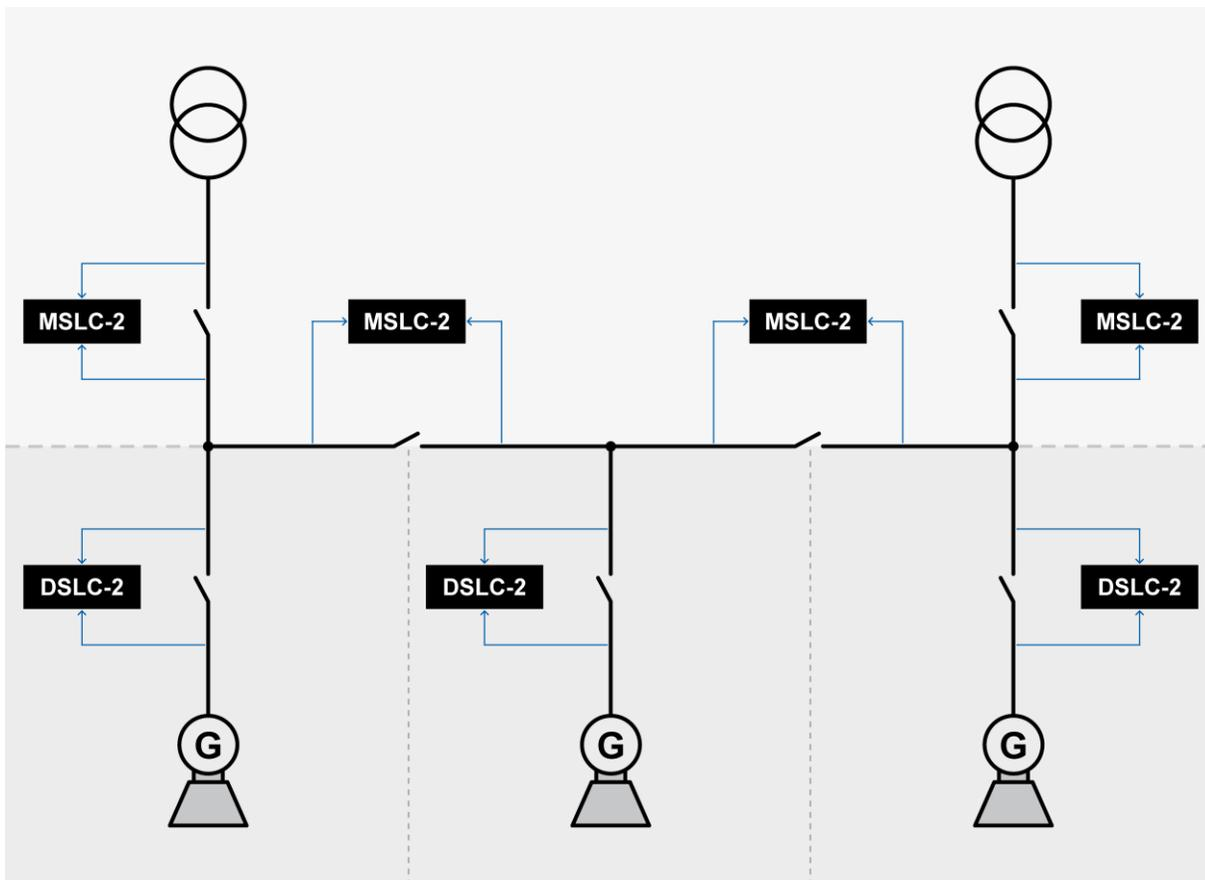

Figure 3-116: Example of an online diagram – step 1
1. Draw an online diagram of your application with all generators, breakers and utility inputs. Then arrange the DSL-2 and MSLC-2 at the according breaker. Refer to Figure 3-116.